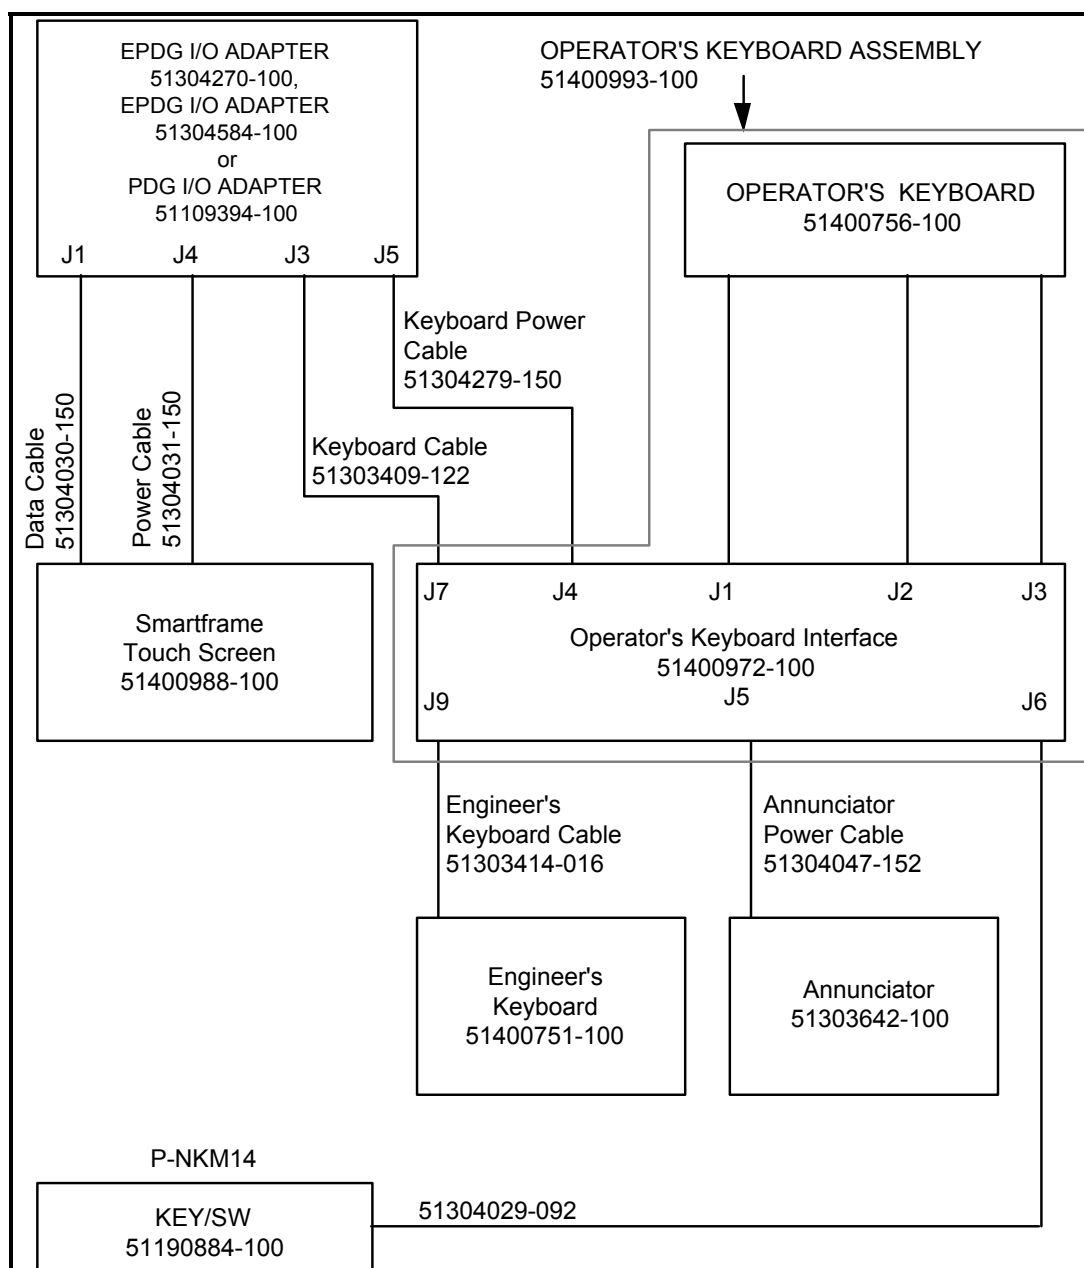

Figure 7-5 — Low Power Keyboard/Touchscreen Cabling for Newer Production Units 2771
- Figure 7-5 illustrates the new low power keyboard and Smartframe touchscreen. Note the Smartframe receives its power from J4 and supplies data to J1 of the PDG I/O board. Also note the PDG I/O board may be replaced with the EPDG I/O board (which drives the new non-interlaced CRT monitor)—J1 and J4 on the PDG I/O board are identical to J1 and J4 on the EPDG I/O board.